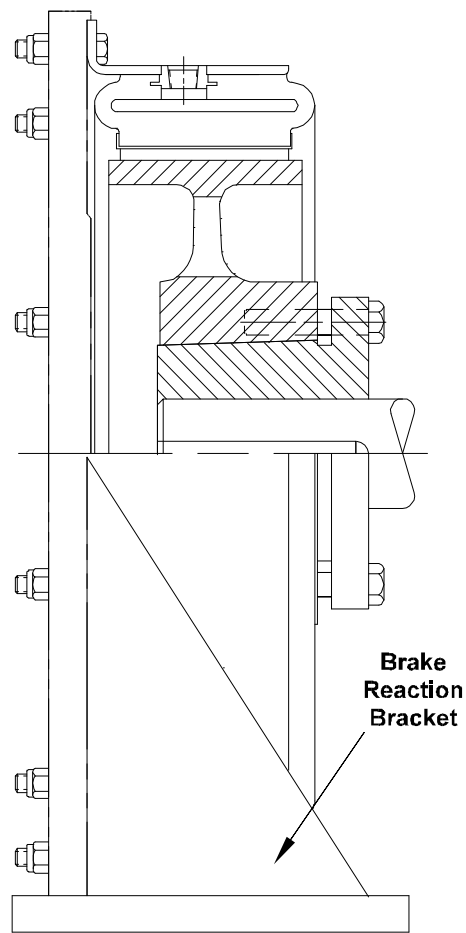

Figure 4
2.1.3 Figure 4 illustrates a typical CB brake application. The drum and drum hub are attached to